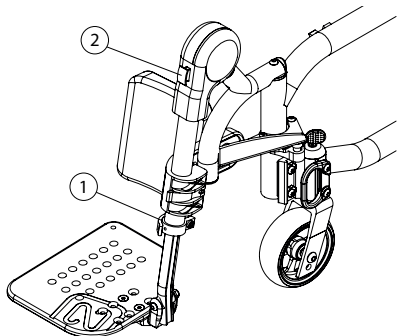

Fig. 4.1
- Install the elevating legrest (Fig. 4.1) the same way to install a regular front rigging, see section 9.3.1.
- To change the legrest length, pull on the lever (1) to open the clamp.
- Change the length and push on the lever (1) to close the clamp.
- To change the legrest angle, set the desired angle while pushing on the red button (2).